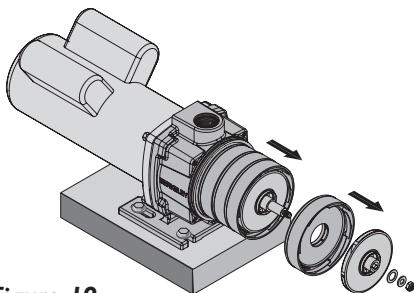

Figure 19
7. Remove the motor canopy, hold the motor shaft with a 7/16" open end wrench, and remove the nut and two washers (Key Nos. 14, 13, 12) from the end of the shaft. See Figure 19.
8. Slide the impellers and diffusers (Key Nos. 11, 10) off of the shaft (Figure 19).